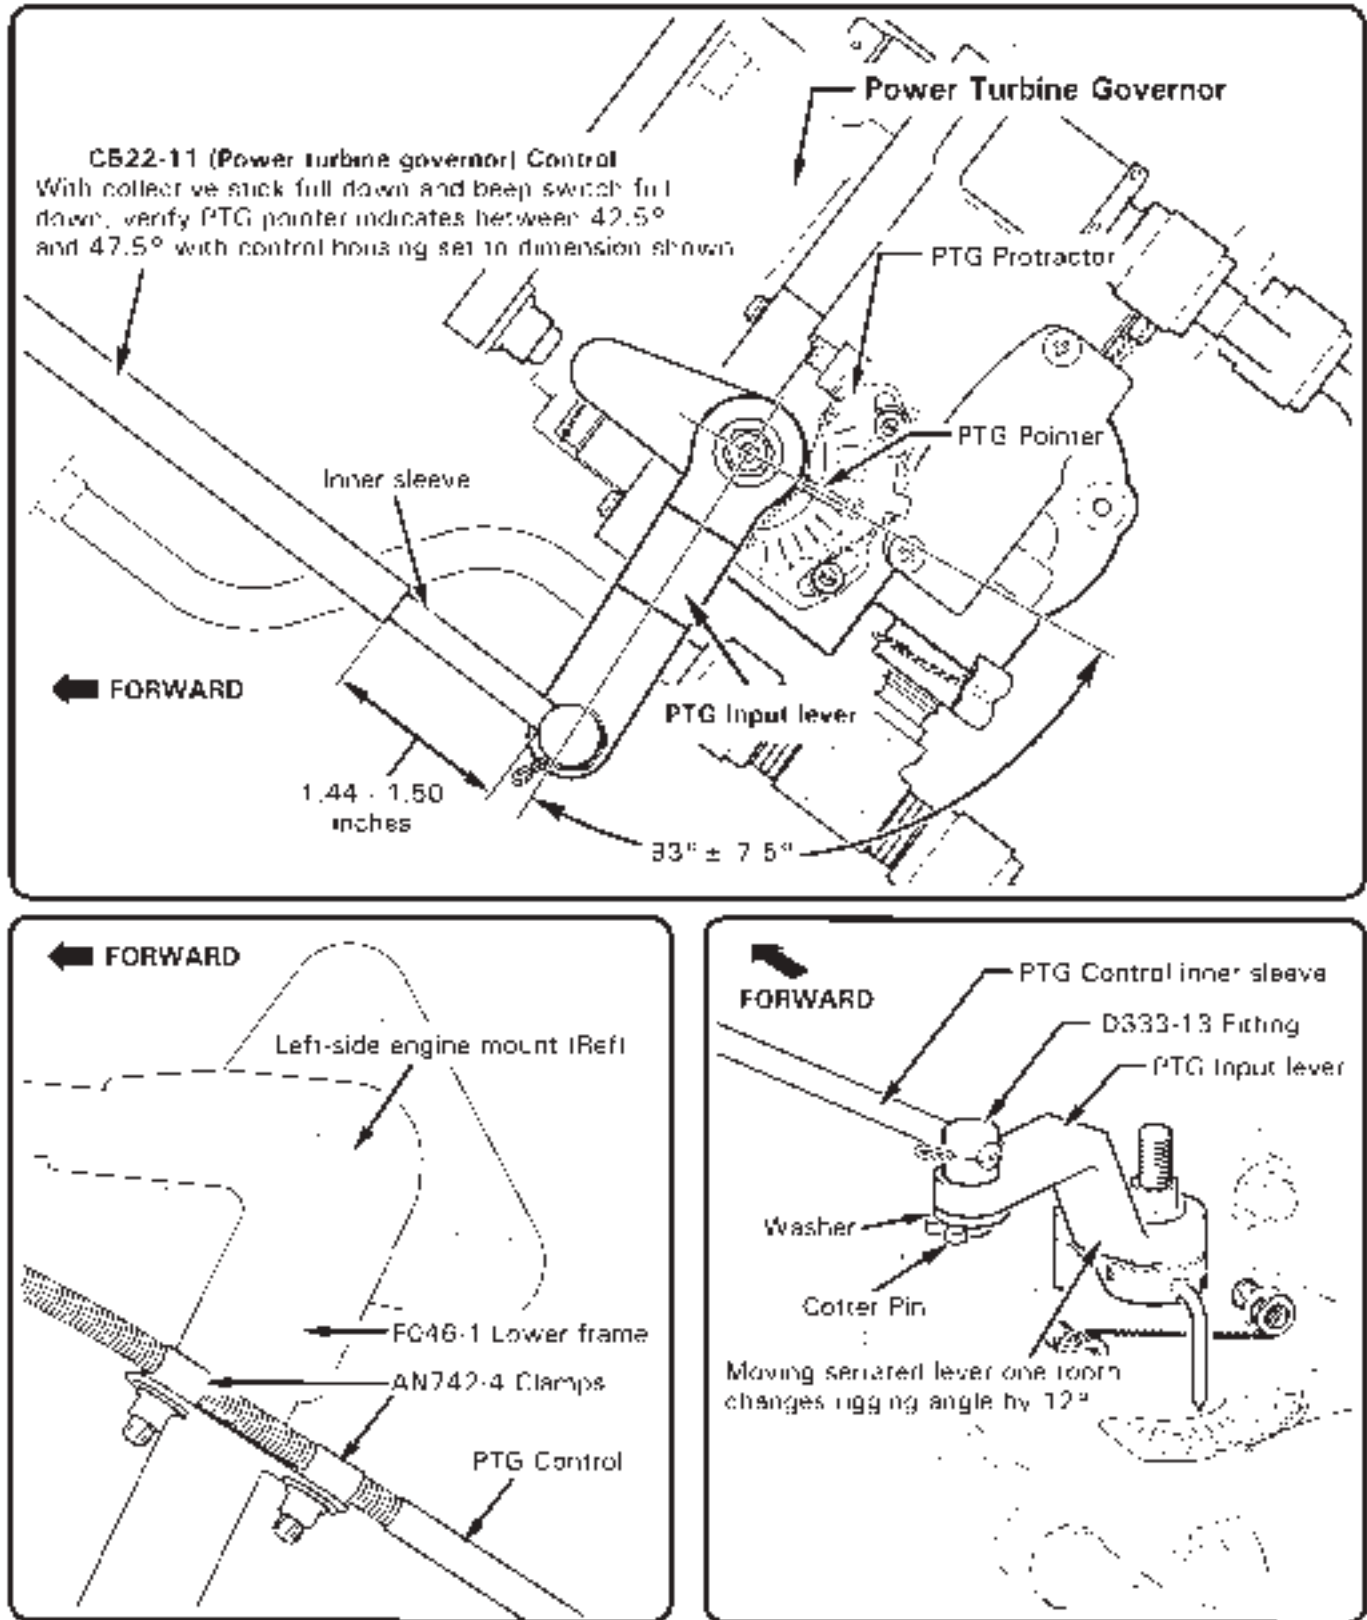

FIGURE 76-2 POWER TURBINE GOVERNOR
2. Refer to Figure 76-2. Remove cotter pin and washer securing C522-11 (power turbine governor) control inner sleeve and D333-13 fitting to PTG input lever.
2. Refer to Figure 76-2. Verify PTG input lever rigging angle is  $93.0^{\circ} \pm 7.5^{\circ}$ . As required, remove hardware securing serrated levers and reposition to proper angle. Install hardware, special torque nut per Section 20-33, and torque stripe per Figure 5-1.
2. Refer to Figure 76-2. With collective stick full down, "beep" collective toggle switch to full down. Verify PTG pointer indicates between 42.5° and 47.5° on PTG protractor. Turn BATTERY switch OFF.